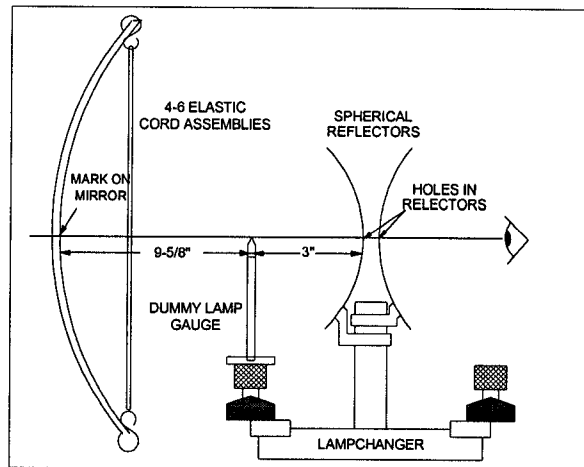

Figure 4-10
- c. Using the reflection of your eye in the large mirror, look directly into the beacon until the reflected image of the elastic cords are over their reflection. The reflected center of your eye should now be at the center of the mirrorpoint, as shown in Figure 4-10. Mark this point on the mirror with a grease pencil (newer mirrors have a hole at the center).
- e. Install only the spherical reflector in the position of the operating lamp. Sight through the center of the reflector and align it until the mark on the mirror, intersection of the elastic cords, dummy lamp gauge and the holes in the spherical reflector are lined up (Figure 4-10). The distance from the spherical reflector in the operating position to the tip of the dummy lamp gauge should be 3" (use 3" measuring tool to check). Align as necessary then tighten fasteners securing the reflector.
- e. Check the focus of the lantern by installing the focus fixture (see figure 4-10) in the operating position of the lampchanger (closest to mirror).